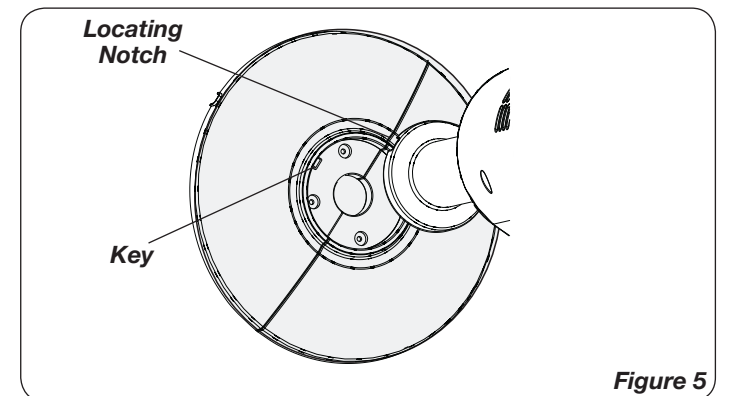
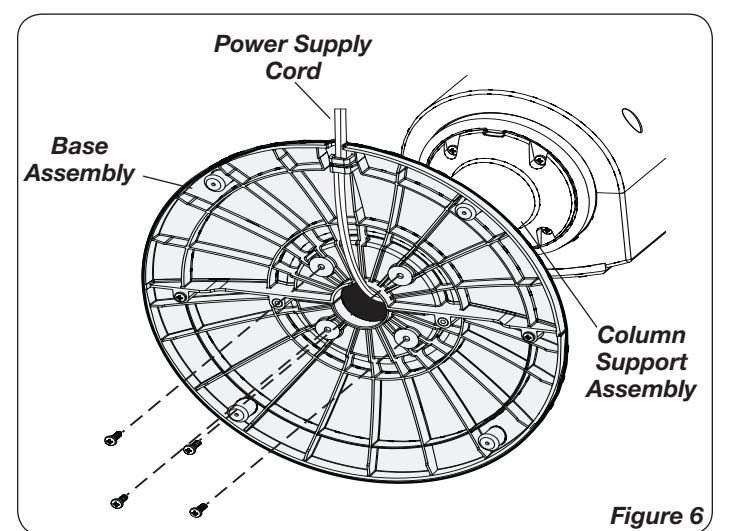

Figure 5
Figure 6
5. Align the **Base Assembly** with the **Column Support Assembly**. Make certain to align the **Locating Notch** on the **Column Support Assembly** with the **Key** on the **Base Assembly** (Figure 5). Attach the **Base Assembly** to the **Column Support Assembly** with (4) M5 X 13mm Screws. Gently pull any excess slack of the **Power Supply Cord** and place it in the **Cord Channel** of the **Base Assembly**. (Figure 6)